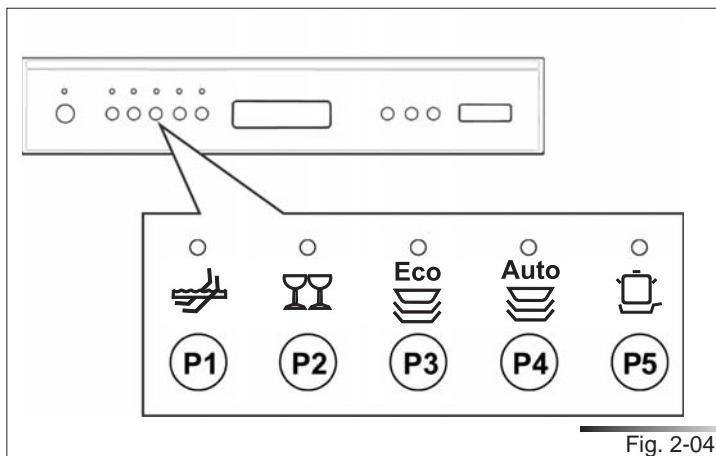

Fig. 2-04
Select the programs using the relative buttons (see P1, P2, P3, P4, P5 fig. 2-04). Press the button relative to the required program (see tab. 2-03a, 2-03b). The relative indicator light shines to confirm the operation and the estimated cycle time in hours and minutes (“**h.mm**”) appears on the **display** (ref. 8 fig. 2-03).